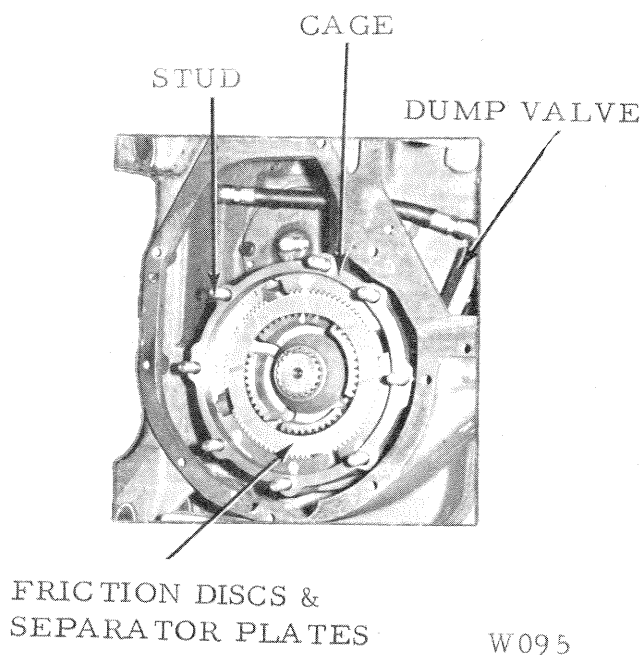
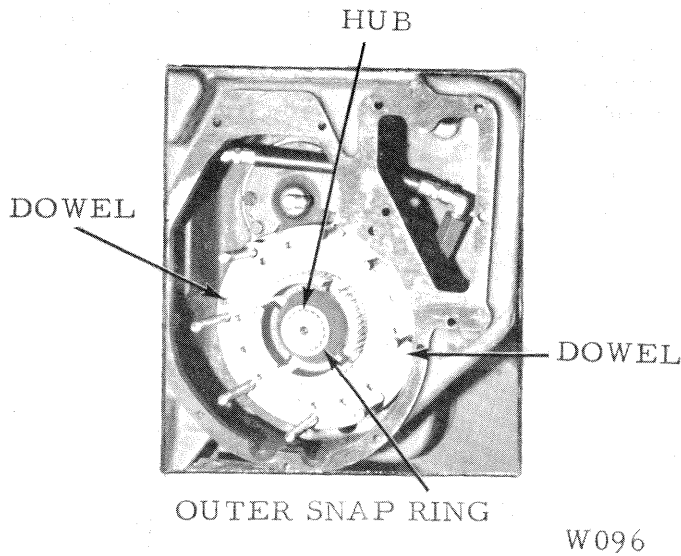
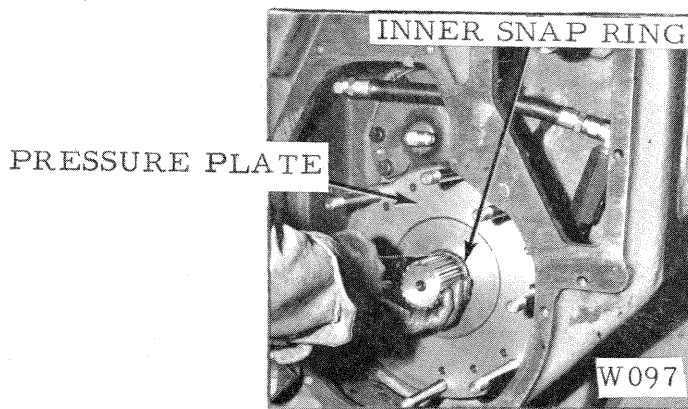

Figure 4
Figure 5
Figure 6
4. Tap the cage with a soft hammer to loosen it, if necessary; then, slide it off the studs. Pull the friction discs and separator plates off the hub, as an assembly. Fig. 4.
5. Remove the outer snap ring holding the hub on the brake shaft. Pull the hub off the shaft. Fig. 5.
6. Remove the inner snap ring. Slide the pressure plate off the shaft; tap it with a soft hammer to loosen it if necessary. Fig. 6.
3. Attach the hydraulic hoses and dump valve. Fig. 4, 7 and 8. Push the two dowels into position in the piston housing. Fig. 5. Screw the two aligning studs into the cases of early D89B winches.
5. Position the inner snap ring in its groove around the brake shaft. Fig. 6. Slide the hub over the shaft, next to the inner snap ring. Secure the assembly with outer snap ring. Fig. 5.